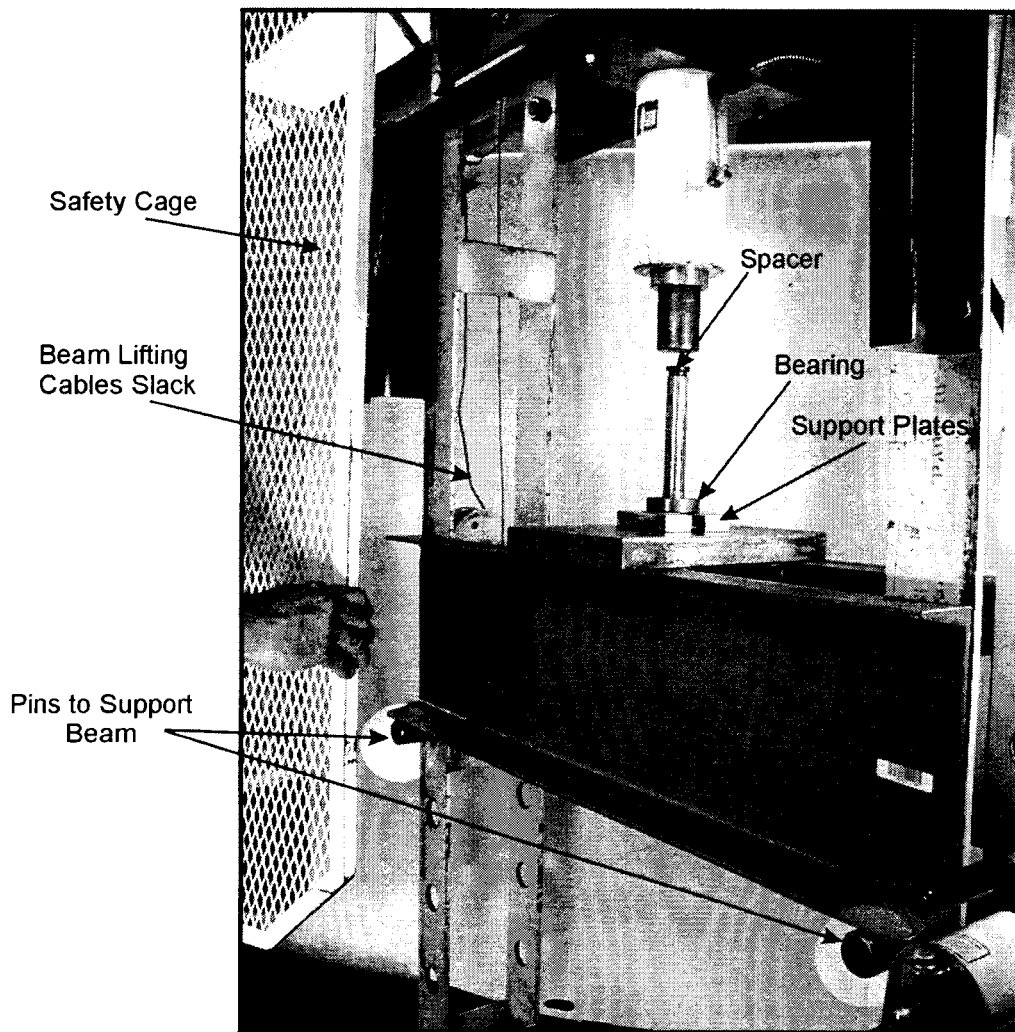

Figure 8 - Removal in a hydraulic press.
When pressing a bearing out of a shaft as shown in Figure 8, the following points should be observed.
- Ensure that the bearing is supported as close to the shaft as possible. Ideally the supporting surface (support plates in Figure 8) should bear against the inner ring of the bearing. A bearing splitter is ideal for this purpose.